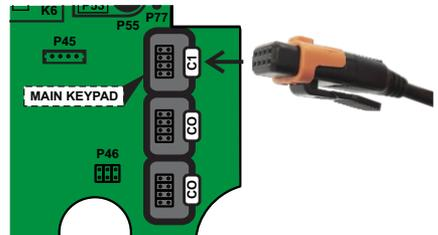

Fig.4
Step 4 - Connect spaside to PCB connection marked C1. (Fig.4)